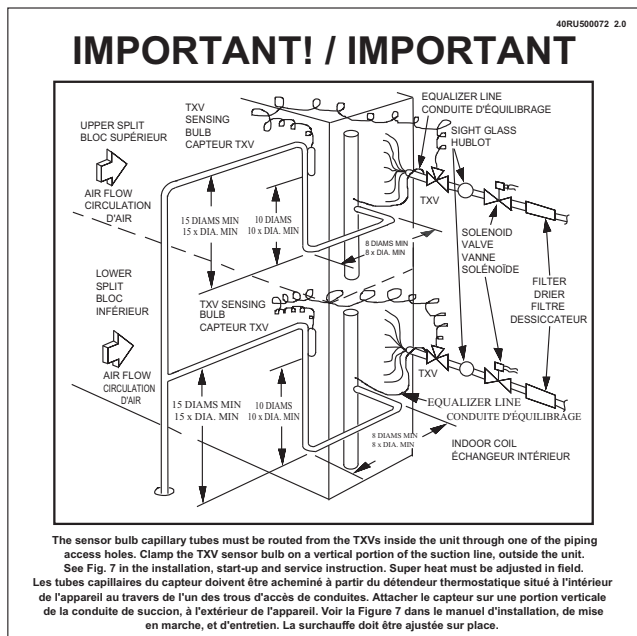

Fig. 20 - Label, TXV Bulb Location
- Is TXV bulb located on suction tube per Fig. 20?